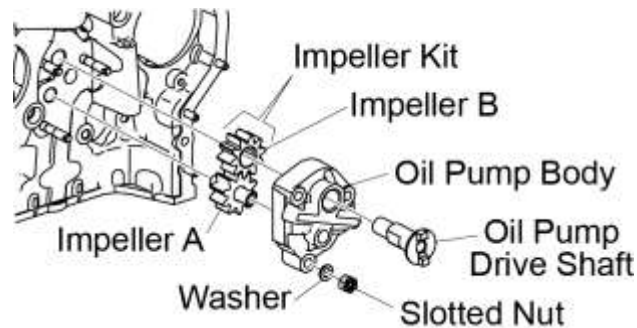

Figure 4
- D. Remove the oil pump drive shaft from impeller B (Figure 4) on the oil pump.
- B. Install impellers A and B in their respective compartments in the oil pump body (Figure 4).
- C. Install the oil pump drive shaft into the oil pump body and through impeller B (Figure 4).
NOTICE: When installing the accessory housing, if necessary, turn the crankshaft to enable the tangs on the oil pump drive shaft (Figure 4) to correctly align with the slots in the crankshaft gear (Figure 5).